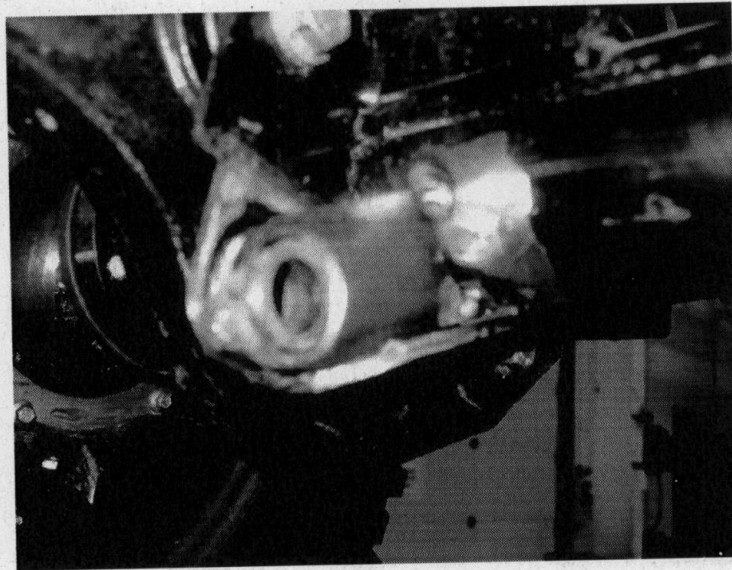

Fig 6.
9.16 Tack the three main contact points as shown in fig 6.